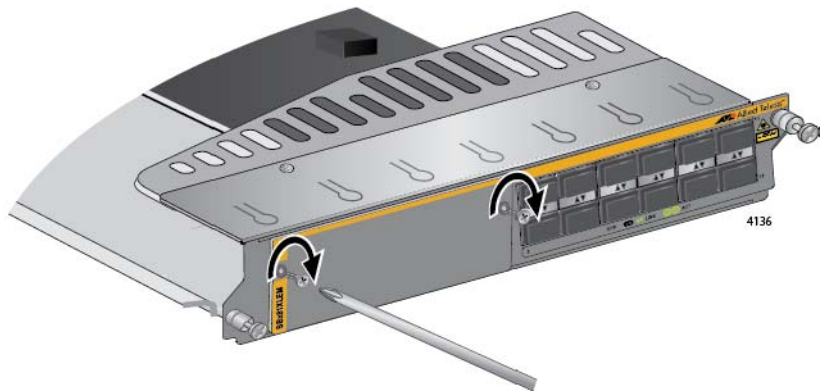

Figure 188. Securing the Blank Slot Cover
10. Secure the blank slot cover to the card with a Phillips-head screwdriver and the two screws removed in step 3. Refer to Figure 188.